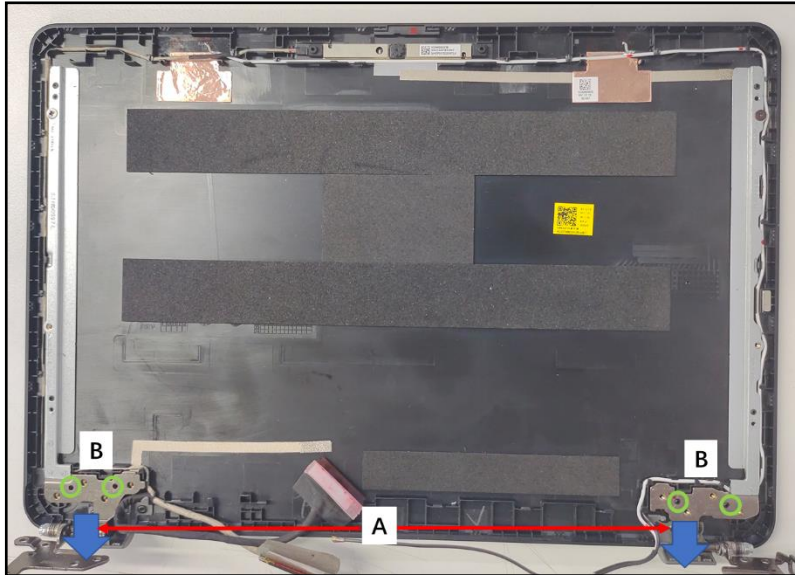

Figure 3-73. Replacing the LCD Hinges
1. Place the LCD hinges (A) on the LCD cover (Figure 3-73).
When installing the LCD hinges, make sure they are properly aligned with the guide pins (B) and placed onto their designated locations as shown in Figure 3-73.